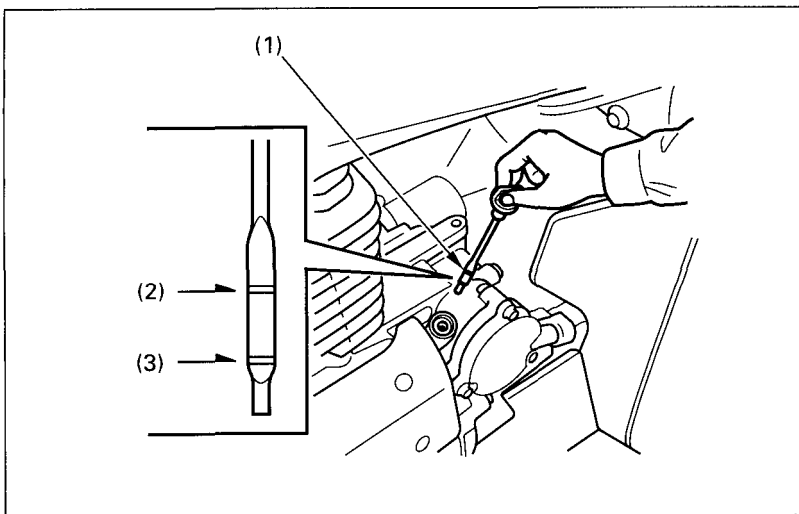

Fig. 2-27 (1) Dipstick
The dipstick (Fig. 2-27), on the right side of the front crankcase cover, is used to measure the oil level. The oil should be checked each day before operating the FOURTRAX and maintained between the upper level mark (2) and the lower level mark (3).